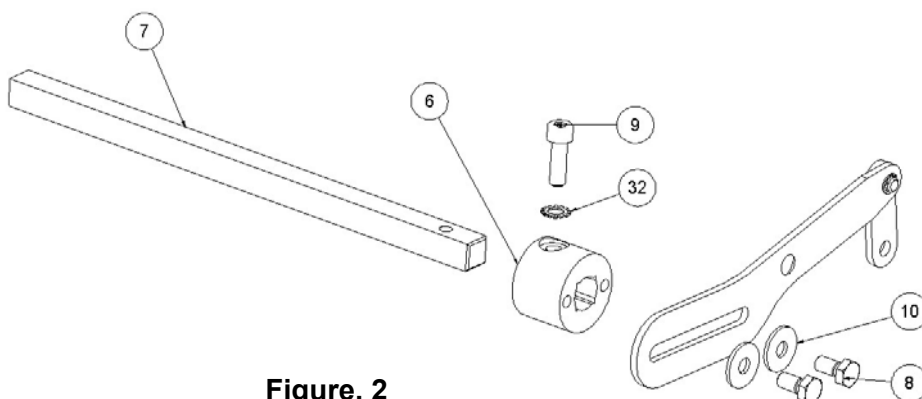

Figure. 2
3. ARMS AND HANDLES ASSEMBLY: Each arm (**7**) must be joined to an arm support (**6**) through a M8 x 25 DIN 912 screws (**9**) and a serrated washer DIN 6798 M8 (**32**). Once together, they must be joined to a handle through two M8 x 16 DIN 933 screws (**8**) and two washers DIN 9021 M8 (**10**), making sure that the countersink of the handle is on its inner face, -Fig. 2-.